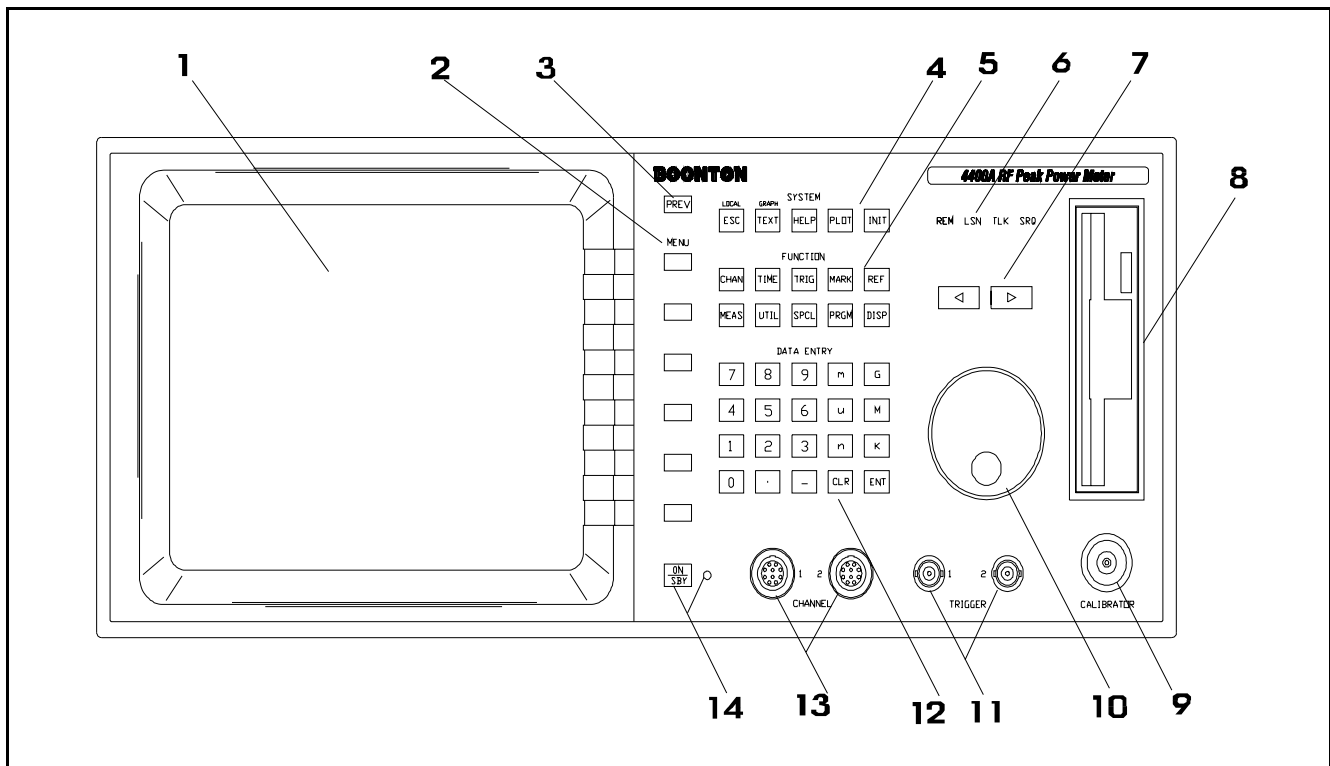
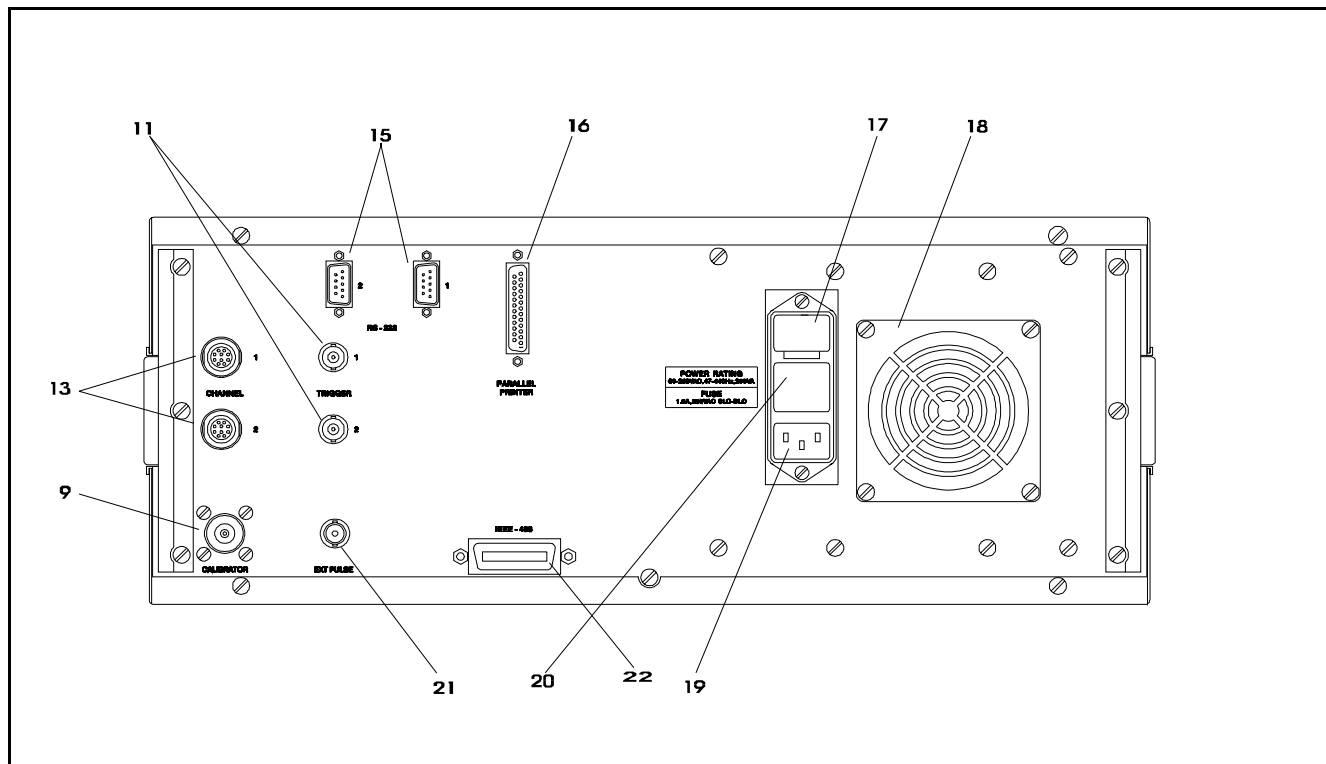

Figure 3-1. Standard Model 4500A RF Peak Power Meter Analyzer - Front Panel
Figure 3-2. Model 4400A/4500A - Rear Panel Shown with Optional Rear Panel Connectors
Connect the power cord supplied with the instrument to the power receptacle on the rear panel. See Figure 3-2.
7. Verify that the Instrument Serial Number matches the number on the rear panel label adjacent to the power connector assembly. See Figure 3-2.
Figures 3-1 and 3-2 illustrate the controls, indicators and connectors on the front and rear panels, respectively, of the standard instrument. Refer to Table 3-1 for a description of each of the illustrated items. Connectors indicated by an asterisk (\*) may be front or rear-mounted, depending on the option selected. The function and operation of all controls, indicators and connectors are the same on the standard and optional models.
1. If the main power is off, press the power switch located on the rear panel. See Figure 3-2. If the ON/SBY indicator LED on the front panel is off, press the ON/SBY key. See Figure 3-1.